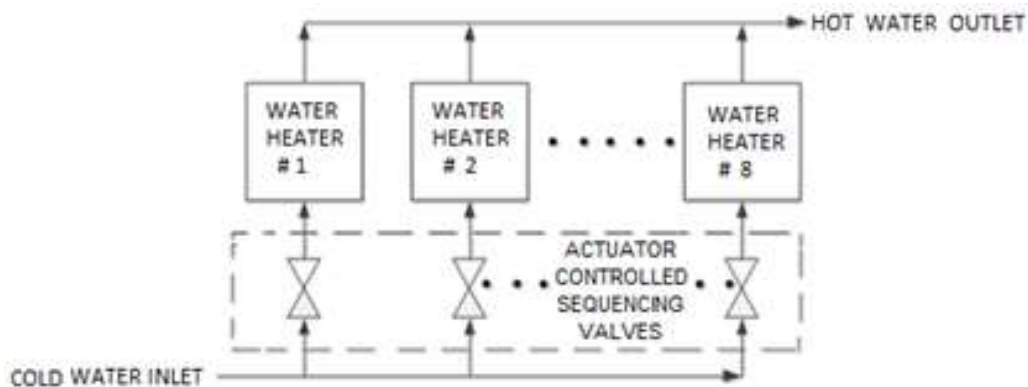

Figure 8-1. Simplified Block Diagram - Water Heater Management (WHM)
The On-Board-Water-Heater Management system II (WHM II) is a feature integrated in the C-More Controller, designed to stage and coordinate multiple AERCO Innovation water heaters while maximizing operational efficiency. The WHM software code resides in each C-More Controller that is part of the system. The WHMII can control up to eight (8) water heaters in parallel. Each water heater controlled by the WHM must be equipped with an Actuator-Controlled Sequencing Valve (P/N **92123**). These valves are installed on the cold water inlet on each water heater being controlled by the WHM (see Figure 8-1).
The C-More Controller’s Water Heater Management System (WHM) is designed to ensure that all water heaters in the system operate at maximum efficiency. This is accomplished by monitoring the Air/Fuel Valve position (VP) of all water heaters that have their sequencing valves open. Units with open sequencing valves are called enabled units. Units with closed sequencing valves are called disabled units. Units which are unable to function, due to a fault or user intervention, are called offline units. When there is minimal or no demand for hot water, the sequencing valve for one unit will be open. As system load increases, the WHM will open the sequencing valves on additional heaters. A simplified block diagram of multiple water heaters connected to a WHM is shown in Figure 8-1.